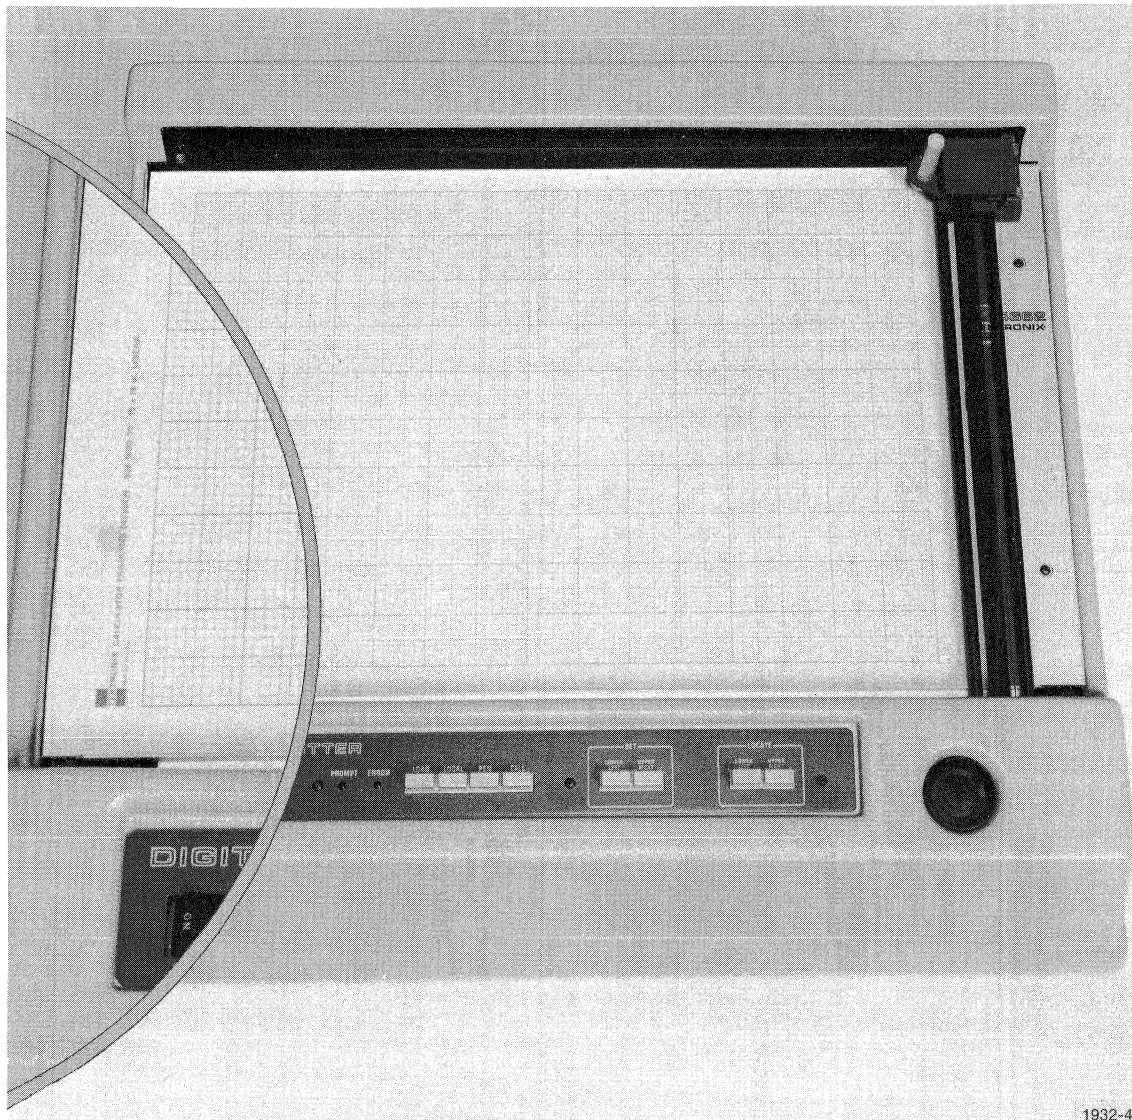

Fig. 3-1. Standard-size paper positioned on the platen.
2. Place a sheet of paper in the desired position on the platen. Standard (default) sized sheets should be aligned with the left-hand edge of the platen and the paper guide at the forward edge of the platen. (Refer to Fig. 3-1.)